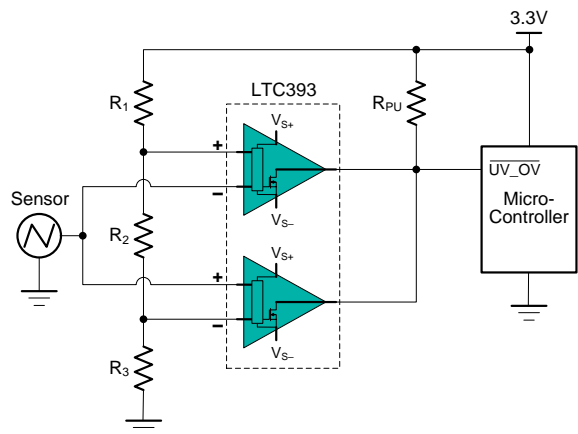

Figure 6. Window Comparator
Window comparators are commonly used to detect undervoltage (UV) and overvoltage (OV) conditions. Figure 6 shows a simple window comparator circuit.
Configure the circuit as shown in Figure 6. Connect V_{S+} to a 3.3-V power supply and V_{S-} to ground. Make R_1 , R_2 and R_3 each 10-MΩ resistors. These three resistors are used to create the positive and negative thresholds for the window comparator (V_{TH+} and V_{TH-}). With each resistor being equal, V_{TH+} is 2.2 V and V_{TH-}